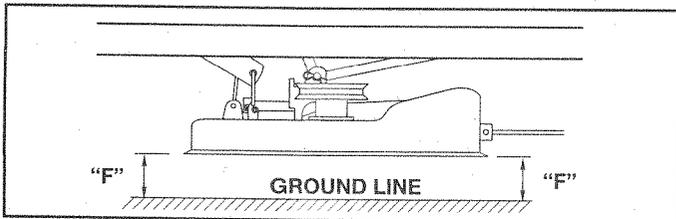

FIG. 24
**FRONT-TO-BACK ADJUSTMENT** (See Figs. 24 and 25) - **IMPORTANT:** DECK MUST BE LEVEL SIDE-TO-SIDE. IF THE FOLLOWING FRONT-TO-BACK ADJUSTMENT IS NECESSARY, BE SURE TO ADJUST BOTH FRONT LINKS EQUALLY SO MOWER WILL STAY LEVEL SIDE-TO-SIDE. To obtain the best cutting results, the mower housing should be adjusted so the front is approximately 1/8" to 1/2" lower than the rear when the mower is in its highest position.